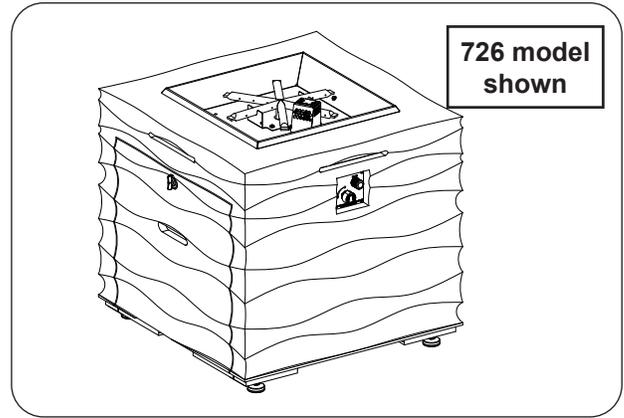

Fig. 30-1 Place unit
1. **Carefully** place the unit in an appropriate location (see Fig. 30-1, and refer back to the LOCATION section if needed).